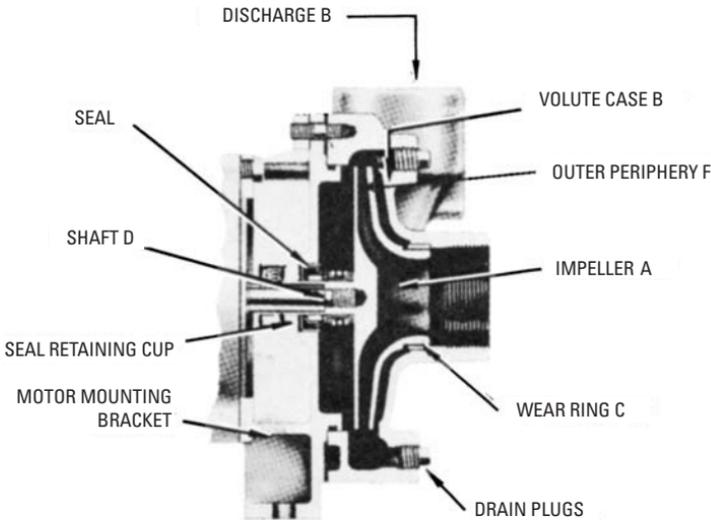

Figure 10-4 Basic components of a centrifugal condensate pump.
As shown in Figure 10-4, the basic components of this pump consist of an impeller (A), with an inlet at its center rotating on a shaft (D). The condensation enters the inlet orifice and flows radially through vanes to the outer periphery (F) of the impeller; it has approximately the same velocity as the periphery. The head of pressure developed by the pump is the result of the velocity imparted to the condensation by the rotating impeller.